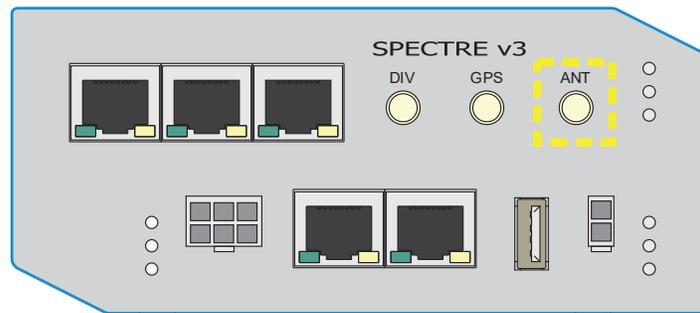

Figure 20: Antenna socket (marked yellow) on the router's front side
8. Connect the plug of the antenna cable to the socket marked ANT (yellow frame in Figure 20 below) on the router.